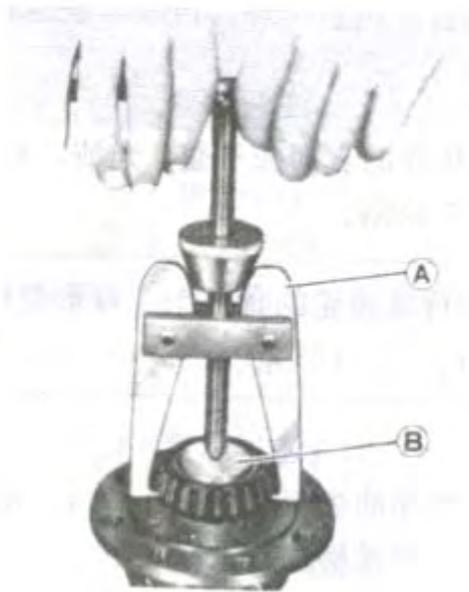

FIG 13-17:1-A-Special tool; B-Bearing
(17) Pull out adjusting wash and bearing on the left of differential. (FIG.13-17)